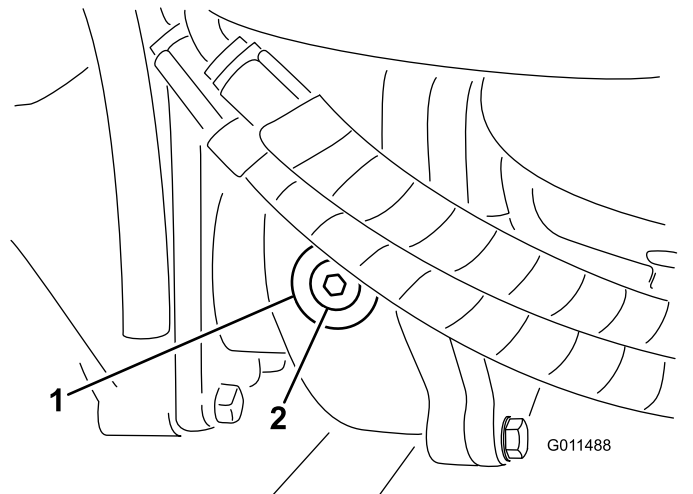

Figure 107
2. Remove the check/fill plug from the left side of the gear box and ensure that lubricant is up to the bottom of the hole (Figure 107).